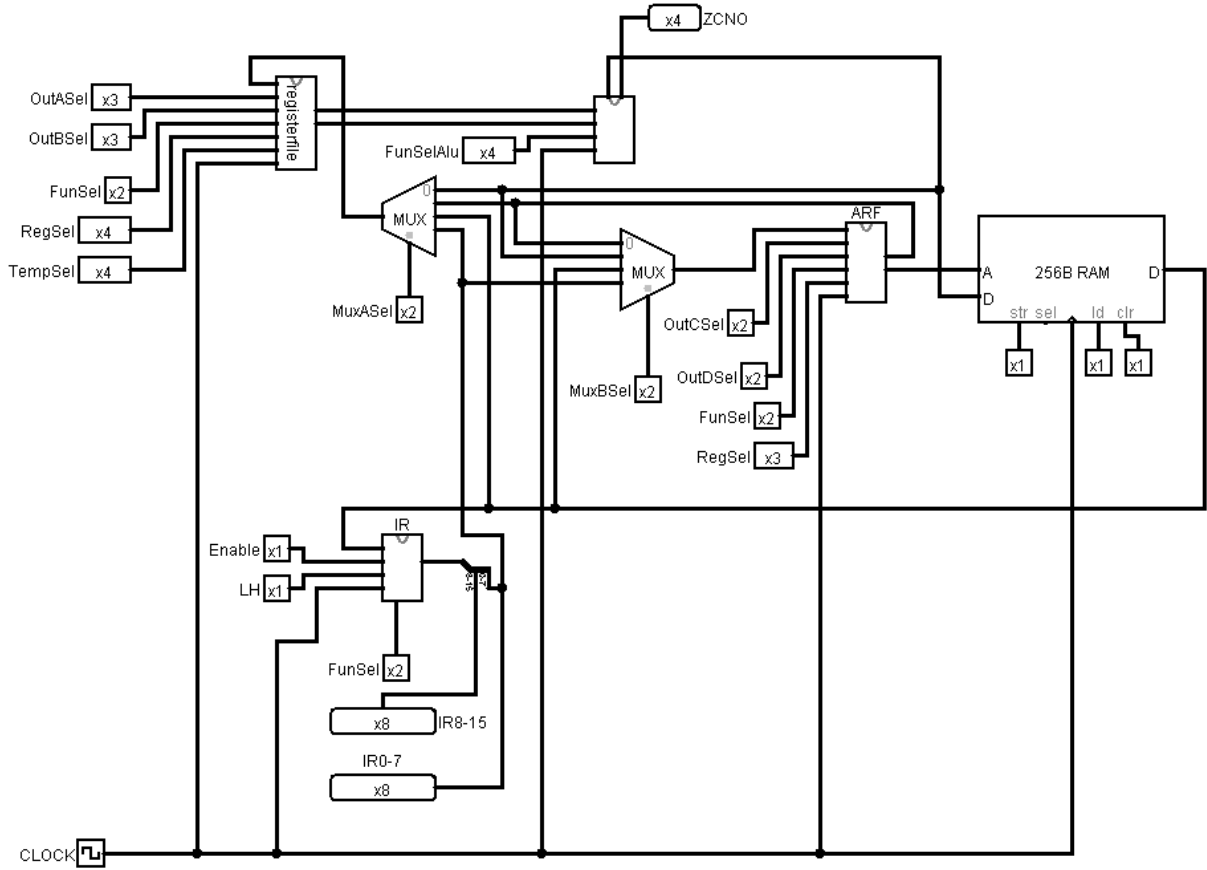

Figure 6: Organisation
Address Register File consists of 3 registers such as PC, AR, SR as shown in Figure 6. It has an 8-bit input (I) to load into active registers, 2-bit FunSel input to select operations such as load, increment, decrement and clear, 3-bit RegSel input to select which registers will be enabled and disabled, 2-bit OutCSel and OutDSel inputs to choose which register's value will be given as outputs.
As shown in Figure 6, there are following components in our design: